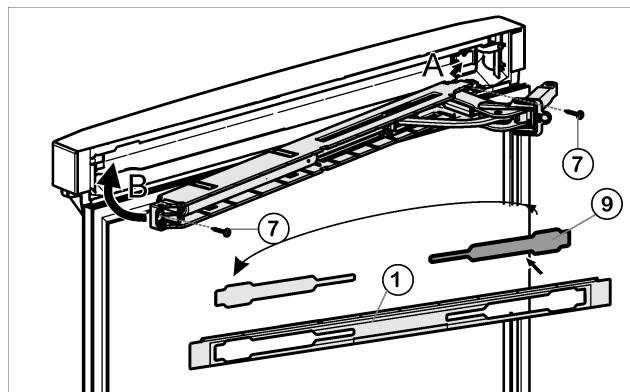

Fig. 16
- Loosen cover Fig. 16 (9) from the panel Fig. 16 (1) and insert on the other side.
- With the hinge of the upper soft stop unit facing the door hinge side, engage the soft stop unit (A) and swivel inwards (B)
- Tighten soft stop unit (2 x Torx® 15) Fig. 16 (7).